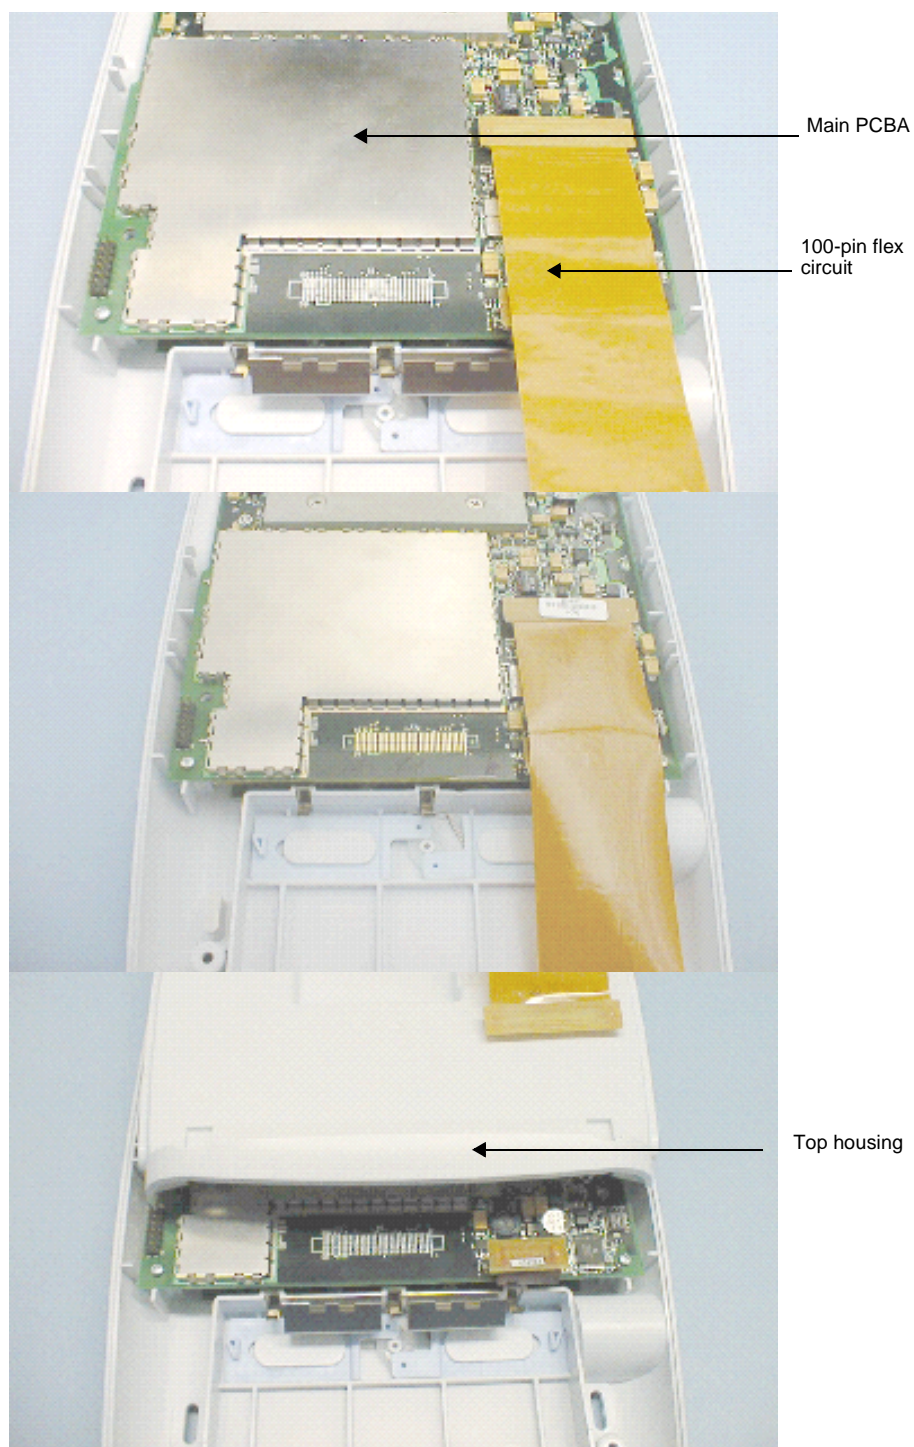

Figure 7.22 Setting the Top Housing Onto the Bottom Housing
4. Carefully set the top housing onto the bottom housing, connecting the 100-pin flex circuit as it sets into position (Figure 7.22).